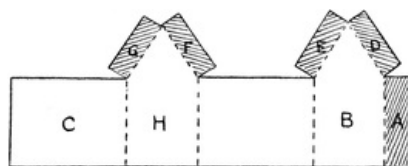
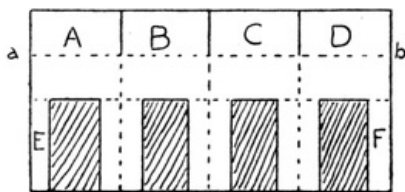
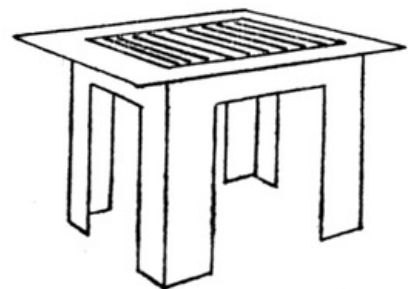

FIG. 1
FIG. 21
FIG. 22
**Methods of joining Cardboard and Paper Edges.** (1) Leaving a flange. In Fig. 1 the shaded portions represent flanges—flange A is for joining side of house B to C, flanges D, E, F, G are for holding the roof; they must, of course, be bent at right angles to the sides B and H. (Note flange in socket of candlestick, Fig. 49, Chapter IV, and in pigeon-house, Chapter X.) [Pg 28]
If Fig. 1 is made of cardboard, flange A must have the surface of the cardboard pared away, otherwise the joining will be clumsy. The dotted lines represent bends only in the case of paper, but half cuts in the case of cardboard.
**Table**. Top of table is a square of white cartridge paper. Make the legs from a double square, each square the same size as top of table. Fold and cut the double square as in Fig. 21. Bend flaps A B C D carefully along *a b*. Gum A to B, C to B, D to A to form legs. Gum square top on to A B C D. A square of coloured paper can be gummed on to top of table as in drawing (Fig. 22). Leg E can be gummed to F by means of a paper hinge, or a flange may be provided, as in Fig. 1.